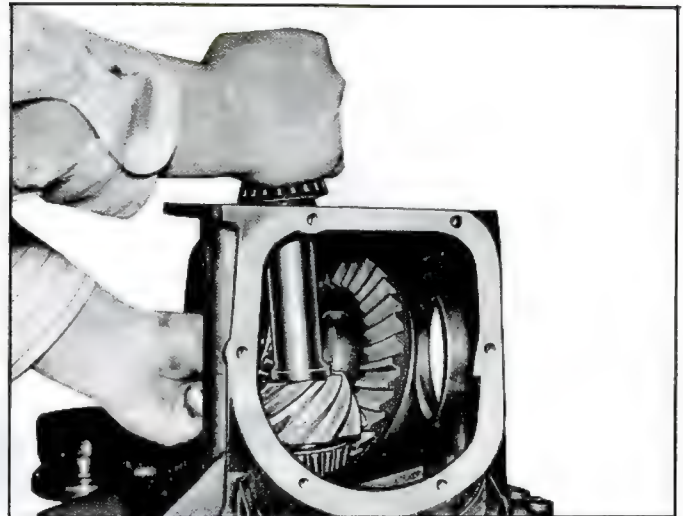

Fig. 16—Removing Pinion from Carrier
7. Remove pinion drive gear with bearings attached by lifting upward and then removing through the cover hole (fig. 16).